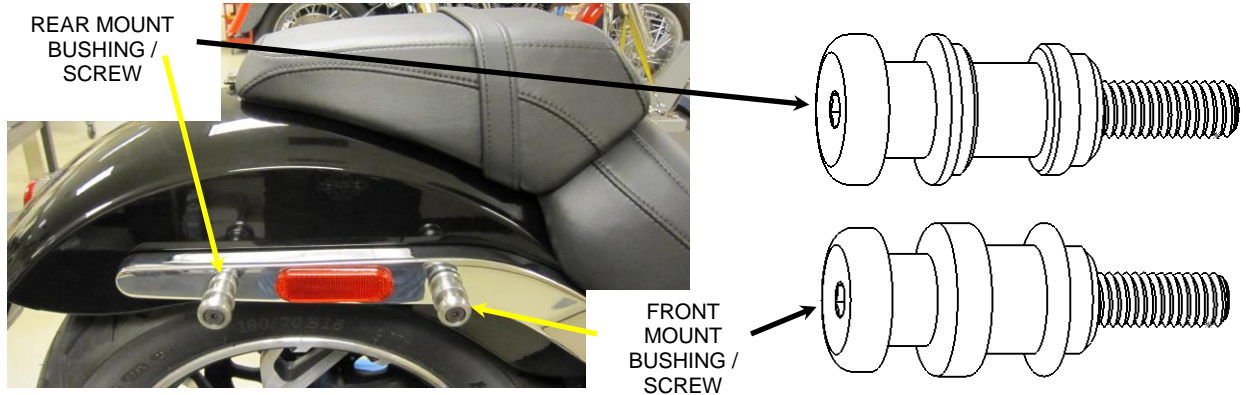

FIGURE 2
3. Insert (1) 3/8"-16 x 2-3/4" supplied screw into (1) supplied front mount bushing. Place sufficient blue Loctite on the screw threads. Install the screw and bushing into the front fender rail hole. Snug but do not tighten, see **FIGURE 2**.
4. Remove the right rear fender rail screw and saddlebag bushing, these will not be reused, see **FIGURE 1**. Insert (1) 3/8"-16 x 2-3/4" supplied screw into (1) supplied rear mount bushing. Place sufficient blue loctite on the screw threads. Install the screw and bushing into the rear fender rail hole. Snug but do not tighten, see **FIGURE 2**